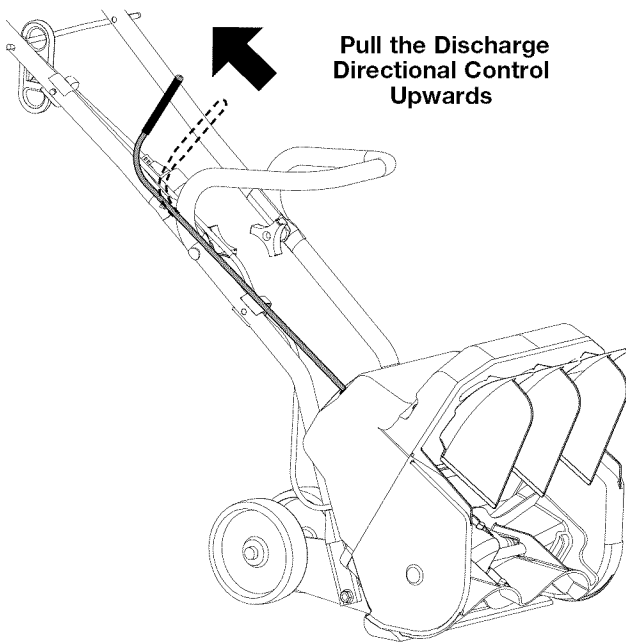

Fig. 7
2. Firmly grasp the discharge directional control handle and pull it up. This releases the spring-loaded rod from the discharge direction slot and allows free movement (Fig. 7)